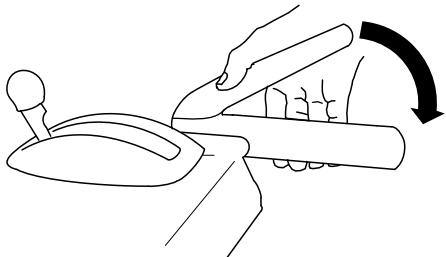

Figure 31
2. Engage the auger/impeller lever and hold it in place (Figure 31).